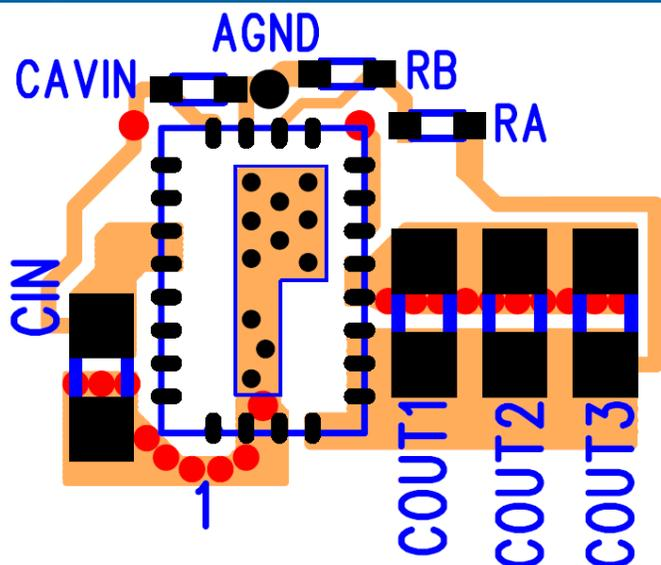

Figure 7. Optimized Layout Recommendations
**Recommendation 5:** AVIN is the power supply for the small-signal control circuits. It should be connected to the input voltage at a quiet point. In Figure 7 this connection is made at the input capacitor. Connect a 1 $\mu$ F capacitor from the AVIN pin to AGND.
**Recommendation 6:** The layer 1 metal under the device must not be more than shown in Figure 7. See the section regarding exposed metal on bottom of package. As with any switch-mode DC/DC converter, try not to run sensitive signal or control lines underneath the converter package on other layers.
**Recommendation 8:** Keep  $R_A$ ,  $R_B$  close to the VFB pin (See Figures 7). The VFB pin is a high-impedance, sensitive node. Keep the trace to this pin as short as possible. Whenever possible, connect  $R_B$  directly to the AGND pin instead of going through the GND plane.